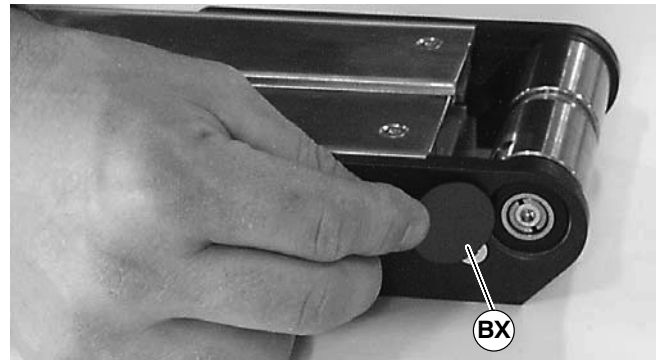

Figure 58
6. Install bearing covers (BX of Figure 58).